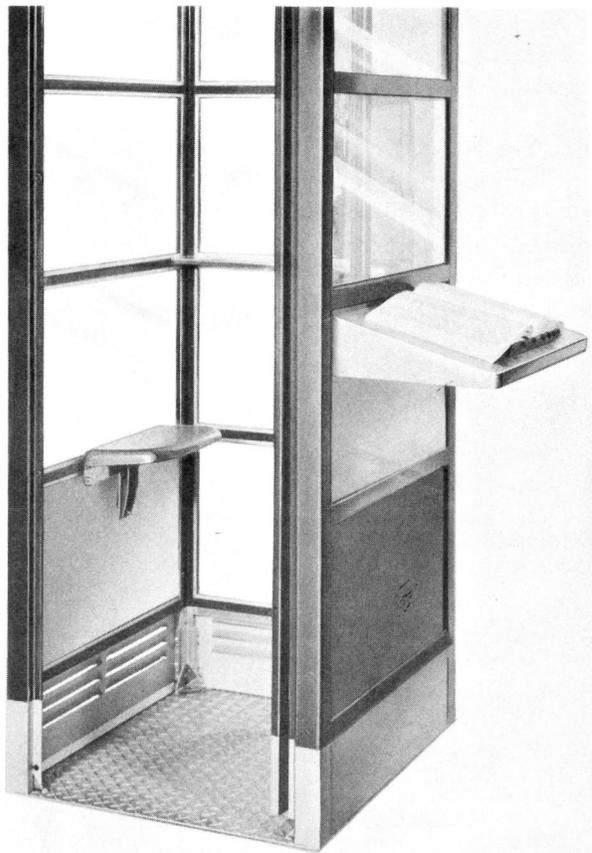

Fig. 3 — KS-16797, List 17 Directory Shelf Installed
**4.03** A KS-16797, *List 17 directory shelf*, Fig. 3, for indoor booths only, is designed to accommodate KS-6472 and KS-6538 directory fasteners. The rack is mounted externally on a list 20 (for list 1 booth) or list 120 (for list 6 booth) anodized aluminum mounting plate.
#### 5. HIGH POSITION SEAT (FIG. 3)